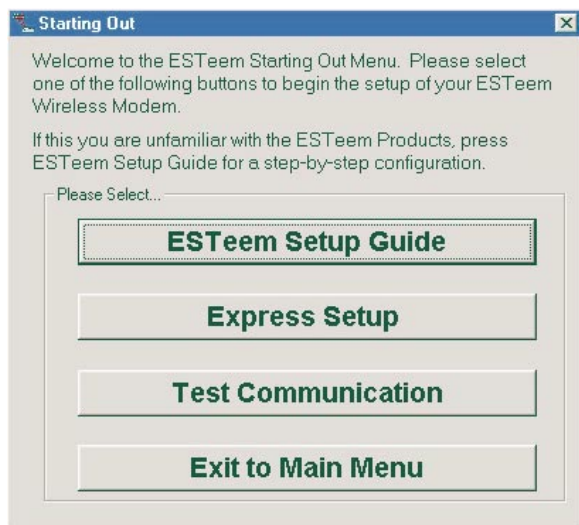

Figure 4: Starting Out Main Menu
1. Select ESTEem Starting Out from the main menu. A window like the one in Figure 4 will be displayed. If this is your first time using the ESTEem wireless modems, select ESTEem Setup Guide for a complete description of all ESTEem functions. Proceed to step 2.
14. Press Complete Setup. You have just configured all operating parameters within the ESTeem. If this is your first ESTeem you have programmed for testing, press the Express Setup button on the Starting Out Menu (Figure 4) to program subsequent ESTeem Modems. The Express Setup will allow you to quickly configure the remaining ESTeem modems without additional instruction. If you have at least two ESTeems programmed and wish to test communication, proceed to step 17.